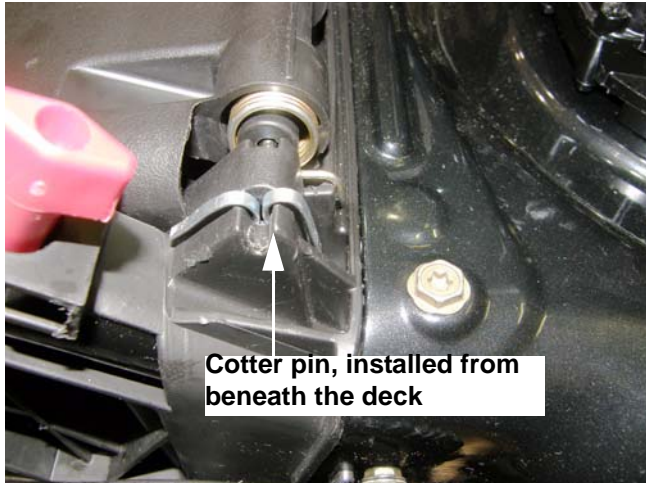

Figure 4.16
10. Push a 5/32" x 1-1/2" (4mm x 40mm) cotter pin through the gap, coming up from the bottom. Bend both ends of the cotter pin down around the hinge loop. See Figure 4.16.